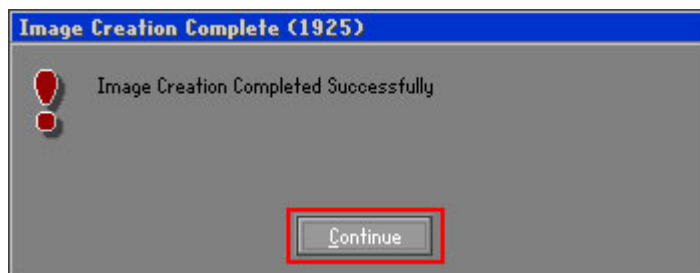

Figure C-20: Image Creation Complete
Step 11: When the image creation completes, a screen prompts as shown in Figure C-20. Click **Continue** and close the Ghost window to exit the program.